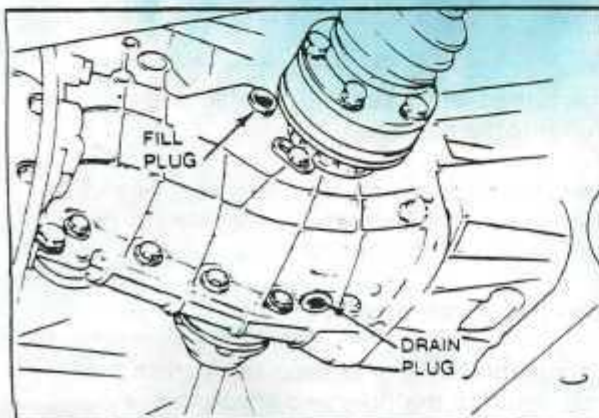

Fig. 8 FINAL DRIVE DRAIN PLUG
2. Remove the final drive fill plug. *Fig. 8*
2. Remove the drain plug from the final drive case and all the oil thoroughly. *Fig. 8*
4. Remove the oil fill plug from the side of the final drive case and add gear oil until the oil level is at the bottom edge of the fill plug hole. *Fig. 8*